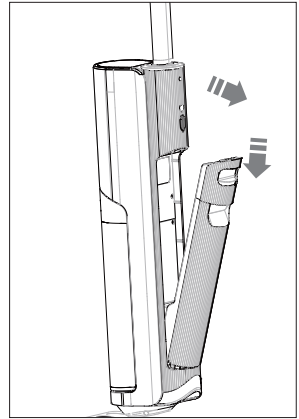

Fig. 5 – Removing the water tank
- ▶ Hold the recessed grip of the fresh water tank (14) and press the fresh water tank release button (15) downwards.
- ▶ Pull the fresh water tank out of the appliance body (see Fig. 5).